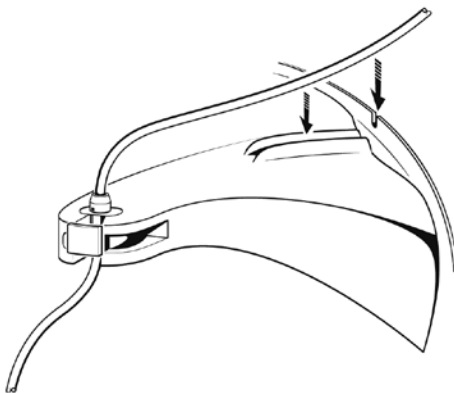

Figure 5. Place tubing through notch in centrifuge ridge.
8. Press tubing down into groove on support arm and tubing through notch in centrifuge ridge (see Figure 5).